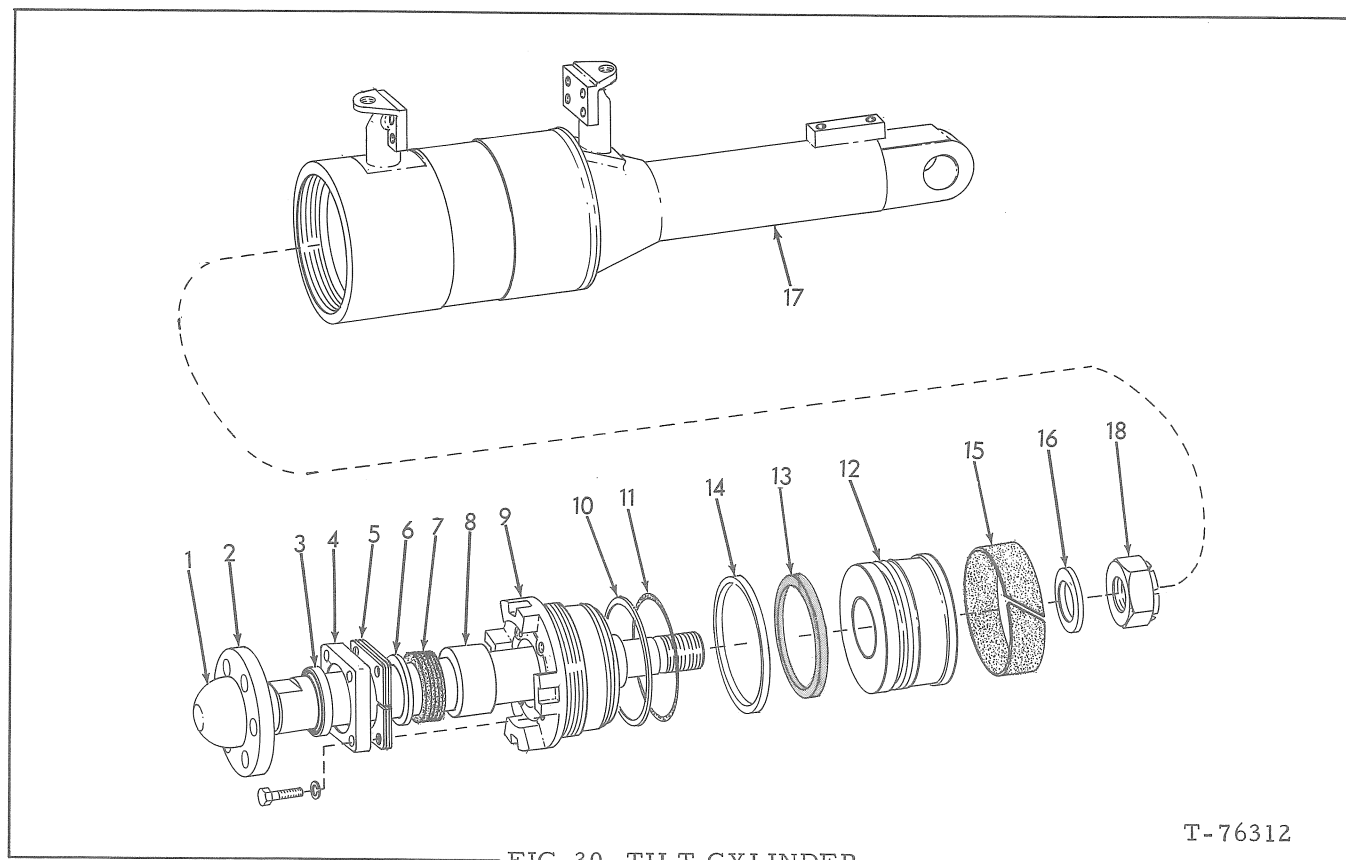

FIG. 30 TILT CYLINDER
Loosen end plate, Fig. 30 (4); then loosen (do not remove) cylinder head (9). Disconnect piston rod from moldboard (be sure to block the cylinder). Unscrew cylinder head and remove rod assembly (a large amount of oil will be present).
Remove the wiper seal, Fig. 30 (3), from end plate and clean the bore.
Remove and discard the seal rings, Fig. 30 (13 and 14), and wear ring (15).
Refer to 7.1.5 except 7.1.5.3. Measure I. D. of bushing Fig. 30 (8); if I. D. is 2.516" (63.9 mm) or more, replace bushing.
Press a new wiper seal, Fig. 30(3) into end plate (4); sealing lip facing out.
Install O-ring, Fig. 30 (11), and back-up ring (10) on cylinder head.
Install rubber seal ring, Fig. 30 (13), in narrow groove in piston. The Teflon ring (14) may be difficult to install. To make it more pliable, twist ring with hands as shown in Fig. 27, then install Teflon ring over rubber ring as shown in Fig. 28. In a few minutes Teflon ring will be back to its original shape. Install wear ring Fig. 30(15), in groove in piston.
Install piston assembly on piston rod. Install spacer, Fig. 30 (16), and nut (18). Tighten nut to a torque of 2000 -- 2100 lbs.ft. (276.5 -- 290.3 kg-m).